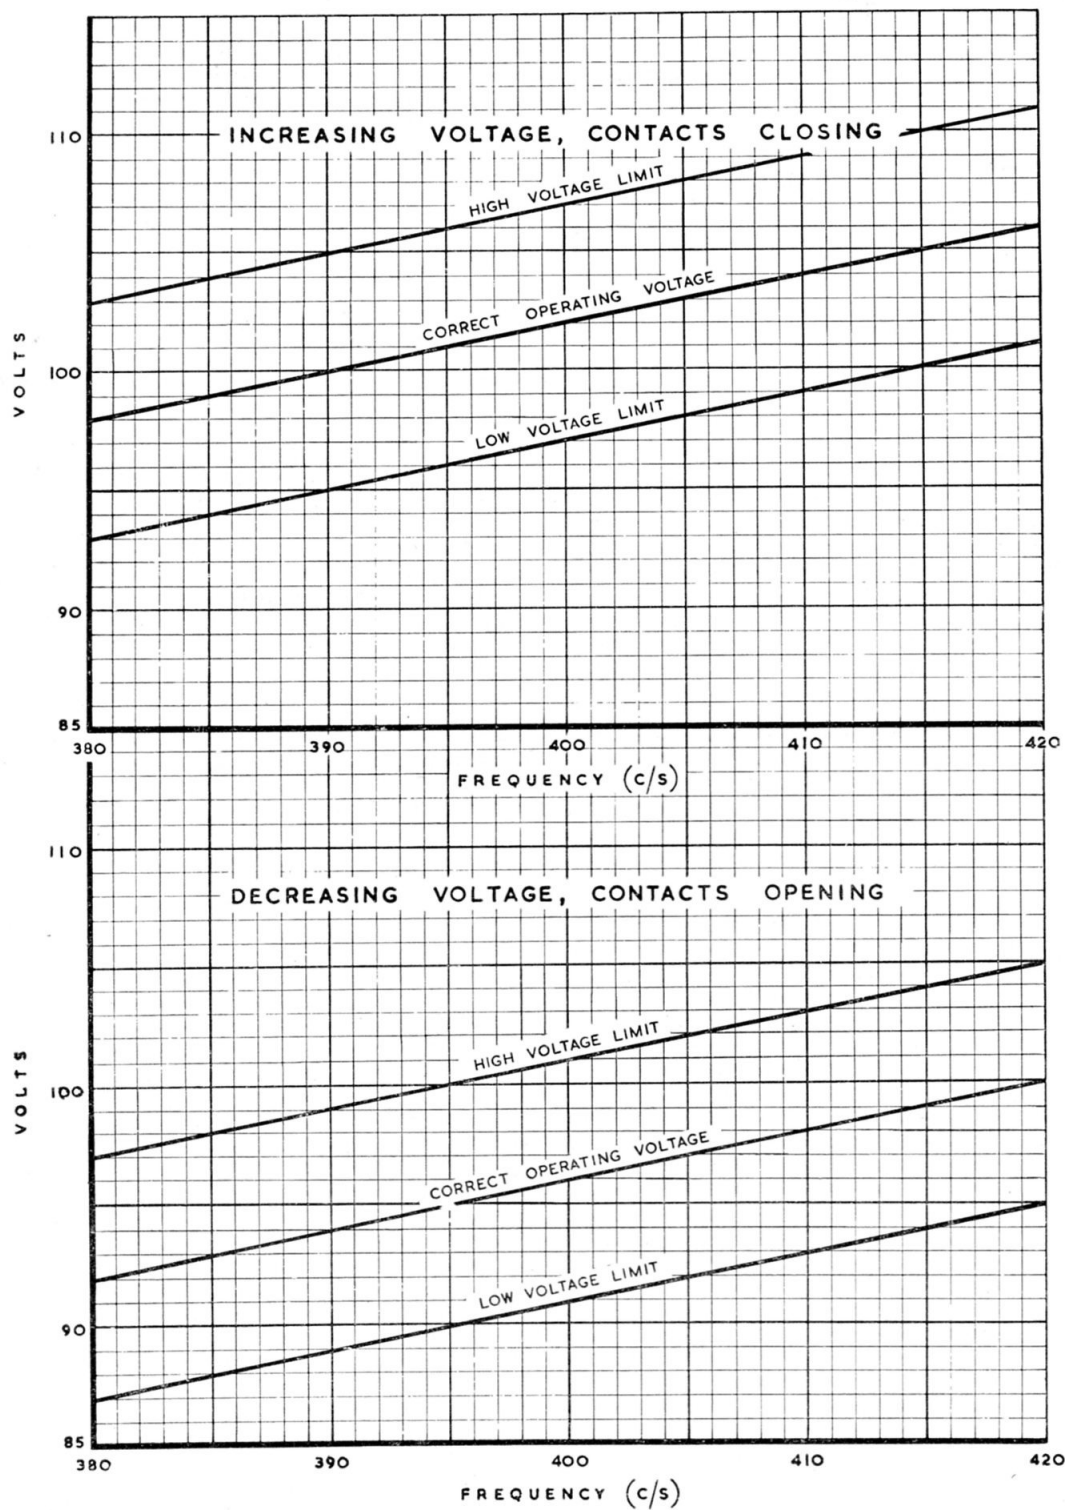

Fig. 5. Graphs of operating voltages
11. The voltages at which the contacts open and close should be within the limits shown in the graphs (*fig. 5*).
supply at 390 c/s will drop the contact operating voltage by 2 volts from the stated figure. The required voltage values, with frequencies between 380 and 420 c/s, are shown in graphical form in fig. 5; switch operation should lie within the band shown for contacts closing or contacts opening, as appropriate.